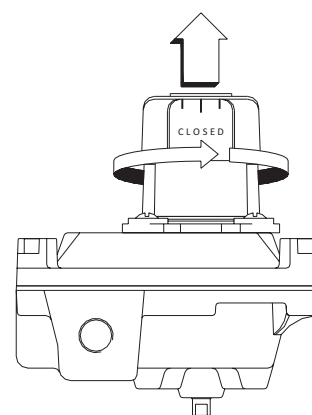

FIGURE 1
2.4 To release the cover, loosen the cover retaining screws. Twist the cover approx 45° and lift up. See Figure 1.